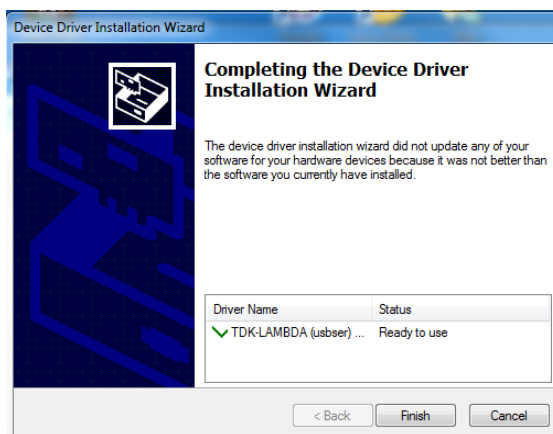

Fig 7
5. USB driver will be installed as an additional serial port {i.e.: seen as Z+ serial port (COM11)}. Refer to Figs 7 and 7a.